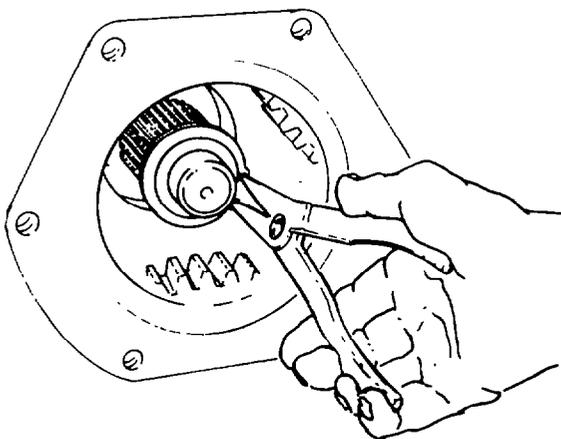

Fig. 176 — Removing Retaining Snap Ring
- n. Remove the fourth gear selective thrust washer retaining snap ring and remove the thrust washer from the mainshaft (see figs. 176 and 177).